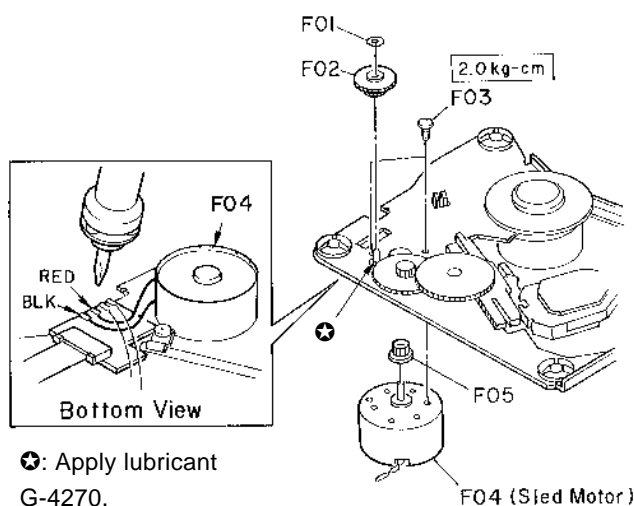

Fig. 1.8.5
Refer to Fig. 1.8.5.
- (1) Reassemble F04 (Sled Motor) with screws F03 (2 pcs.) with a torque of 2.0 kg-cm.
- Note:** Pay attention to the sled motor installing direction. Install it as shown in Fig. 1.8.5.